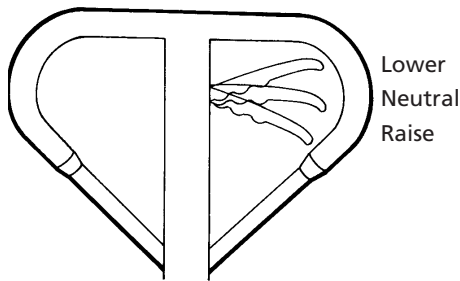

Figure 5 – Control Lever
6. Position Up/Down control in LOWER or "up" position (See Figure 5). Pump handle several times to release air from pump.
The three position control lever is operated as follows: (See Figure 5)